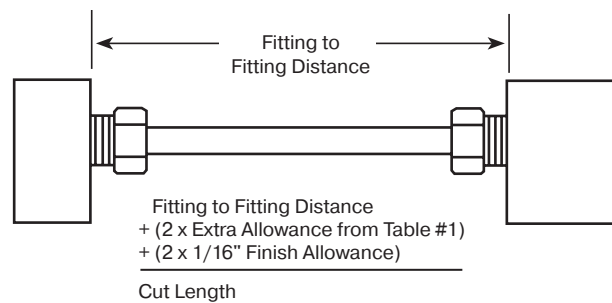

Figure 2
- 3.2 Tubing should be measured accurately and cut to length. Measure the distance from fitting to fitting. See Table #1 for an engagement (assembly) allowance to include in the cut length. Also an additional 1/16" finish allowance is required per end to square up tube ends. The total cut length will be the sum of the fitting to fitting distance, the engagement allowance and the finish allowances see Figure 2.